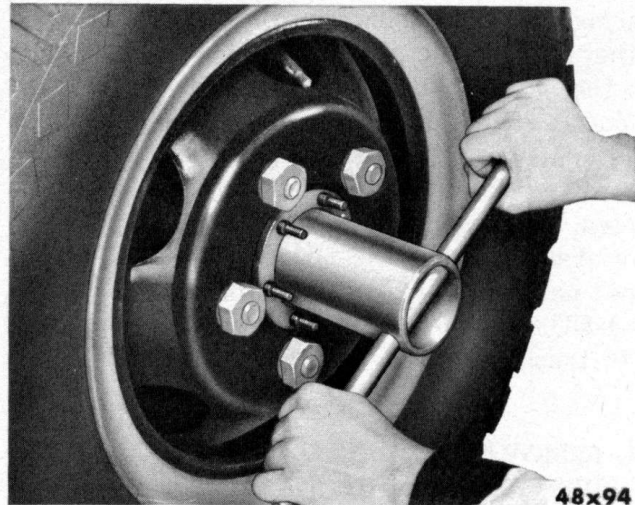
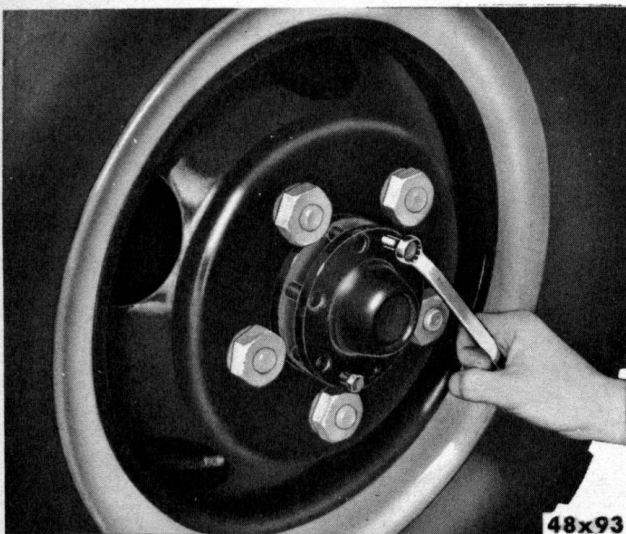

Fig. 99—Removing Rear Wheel Bearing Adjusting Nut (Tool DD-824)
Fig. 98—Removing Drive Flange
- (1) Remove drive flange retainer nuts.
- (2) Remove drive flange from hub by placing two bolts in the holes provided and turning inward until flange breaks loose. Refer to Figure 98.
- (3) Remove rear wheel bearing lock nut, using Tool DD-824.
- (4) Remove rear wheel bearing adjusting nut lock.
- (5) Remove rear wheel bearing adjusting nut (Fig. 99), using Tool DD-824.
- (6) Remove wheel assembly, being careful not to damage bearings.
- (7) Disconnect brake line from wheel cylinder.
- (8) Remove brake support plate retainer bolts and plate can be lifted off.